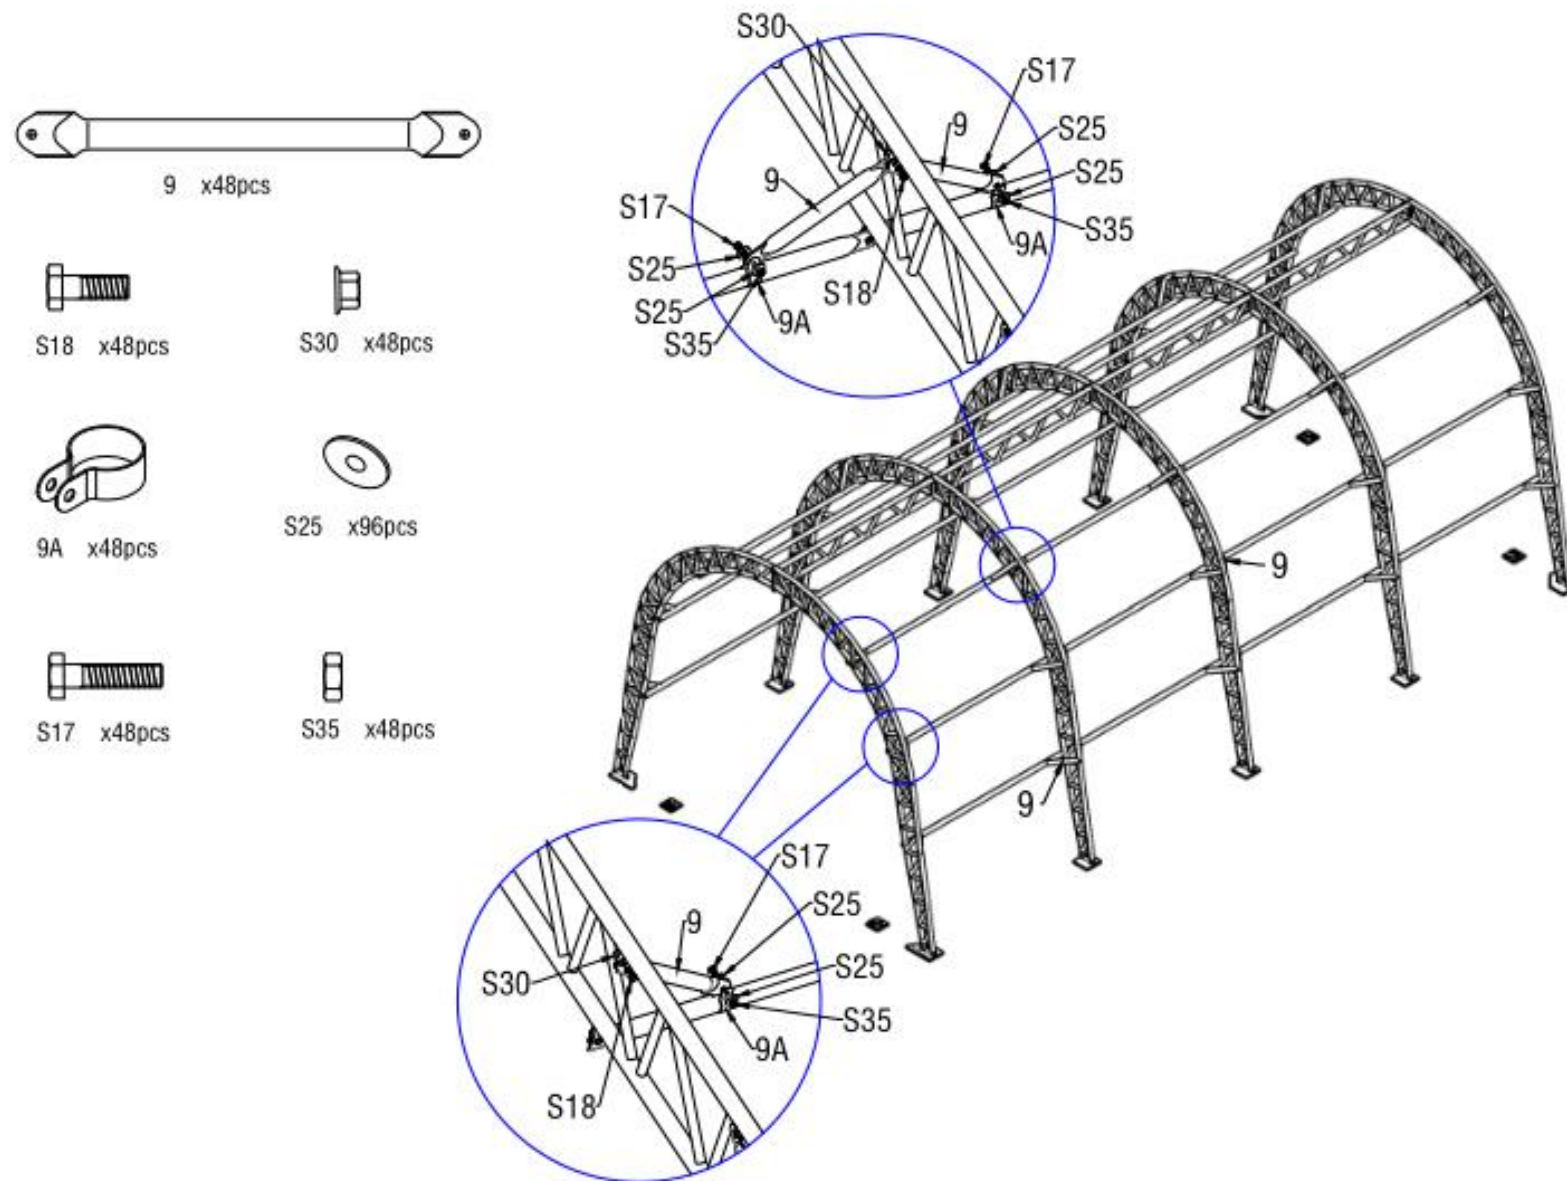

Figure 9
5. Fix clips(No.9A) on purlins(No.8) and install the Diagonal Support Tube For purlin (No.9) on clips as figure 9 shows. Please connect the Diagonal Support Tube For purlin (No.9) between arch frame and purlin (No.8) by using Screw M10x30(No.S18) and Screw M10x50(No.S17) with plain washer M10(No.S25).